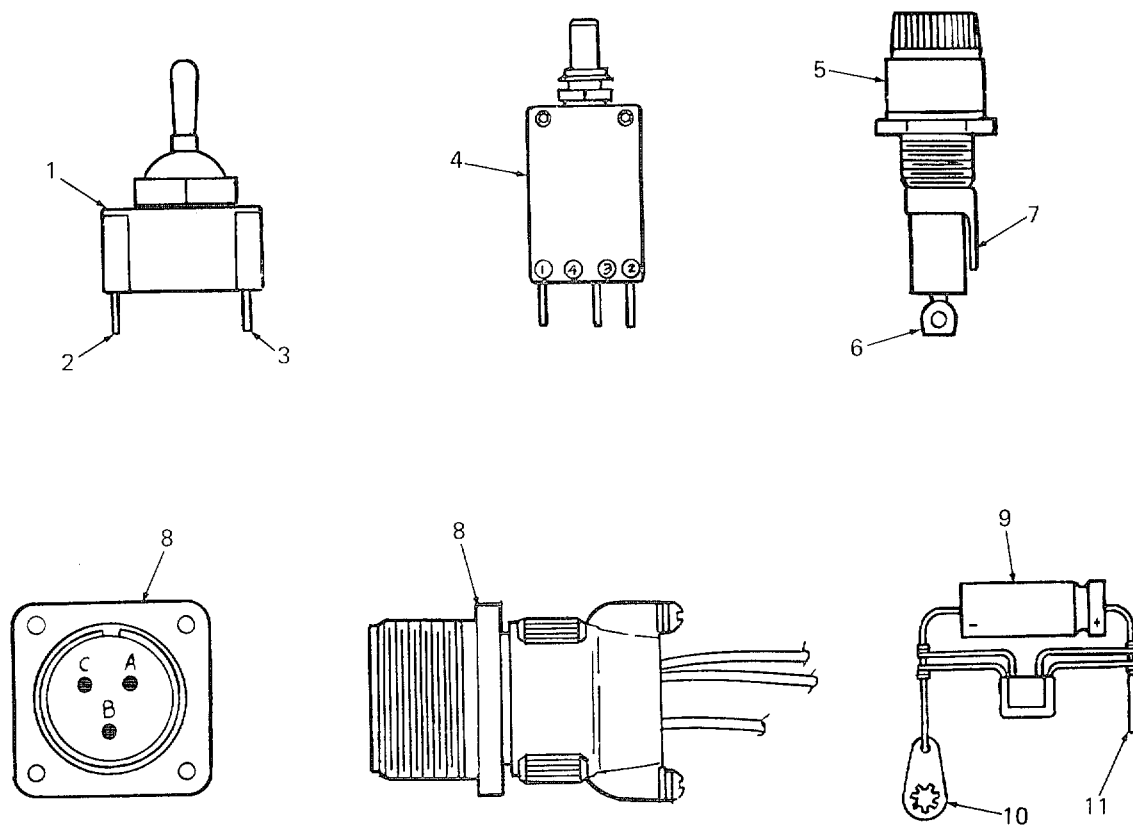

Figure 4-19. Control Panel Assembly component Test Points.
3. ON-OFF SWITCH (See Figure 4-19):
4. RESET CIRCUIT BREAKER (4, Figure 4-19).
- a. Push in the cap on the fuse holder (5, Figure 4-19), rotate the cap counterclockwise, and remove it.
- d. Install a known good fuse into the cap and insert into the fuse holder (5). Press in and turn clockwise.
6. THERMOSTAT RECEPTACLE (Typical thermostat and power receptacle shown as item 8 on Figure 4-19).
7. POWER RECEPTACLE (Typical thermostat and power receptacle shown as item 8 on Figure 4-19).
8. CAPACITOR ASSEMBLY (9, Figure 4-19).